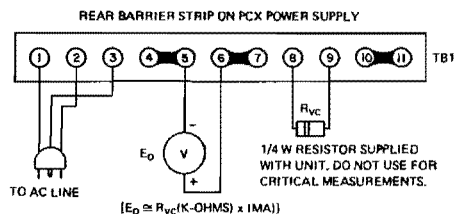

FIG. 2-4 OPERATION CHECK PCX
- a) PCX MODELS. Apply AC line power and connect a suitable DC voltmeter as shown in FIG. 2-4 below. The output voltage measured on the connected meter will be proportional to the resistance connected across terminals (8) and (9) of the rear barrier strip on the power supply (TB1). Since a (nominal) 1 mA control current is used in PCX power supplies, the output voltage (E₀) will be approximately equal to the number of kilohms used times 1 mA.